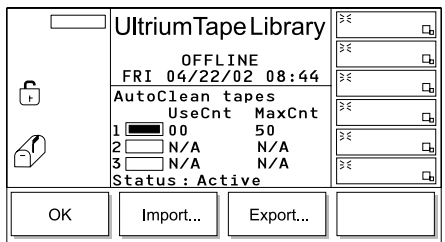

Figure 164. AutoClean Dialog
3. Press the button below the **AutoClean** softkey. The AutoClean Dialog displays (see Figure 164).